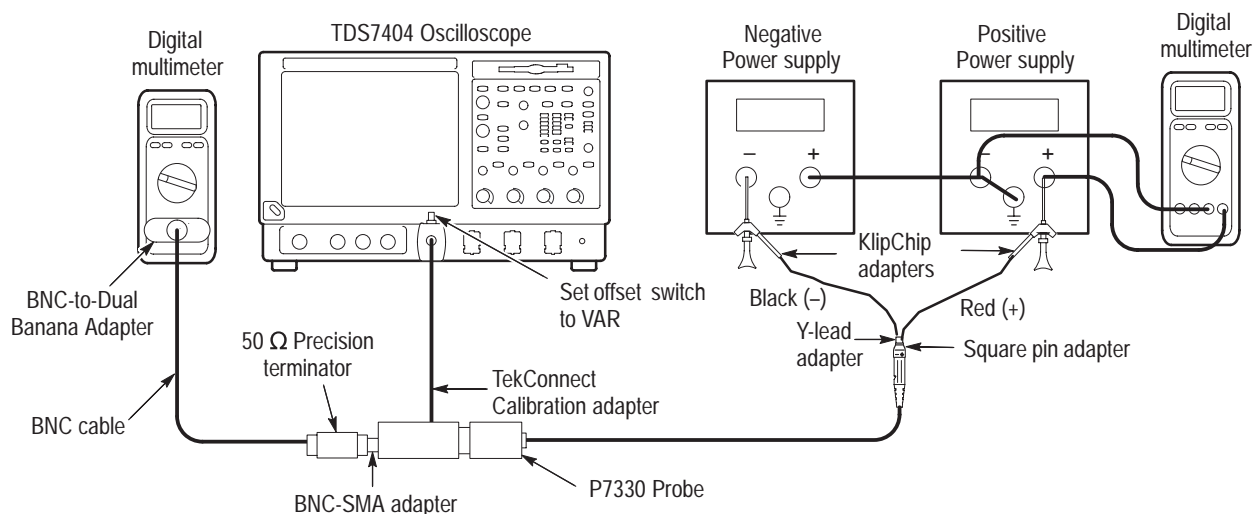

Figure 16: Setup for offset gain
1. Connect the test equipment as shown in Figure 16.